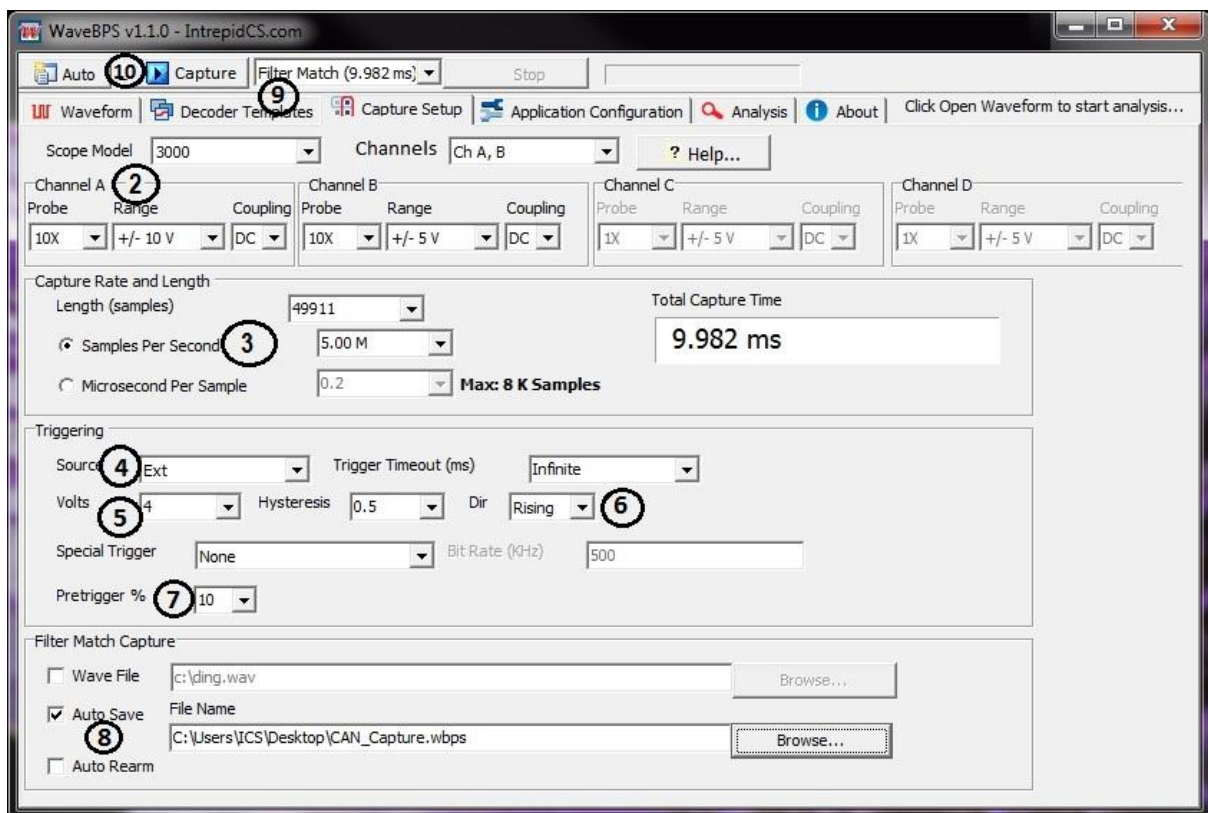

Figure 1: WaveBPS settings for capturing waveform using external trigger.
2. Select Capture Setup→Channel A→Range +/- 10V (Figure 1 →(2))
3. Set Sample Per Second→5 M (Figure 1 →(3))
4. Set Triggering source→Ext (Figure 1 →(4))
5. Set Triggering Vol→4 V(Figure 1 →(5))
6. Select the Direction→Rising(Figure 1 →(6))
7. Set Pretrigger→ 10%(Figure 1 →(7))
8. Select Auto Save -> Browse -> give the file name with .wbps extension. (Figure 1 →(8))
9. Select Filter Match (13.017ms) option from the dropdown list right to Capture Button. (Figure 1 →(9))
10. Select Capture to capture the data. (Figure 1 →(10))